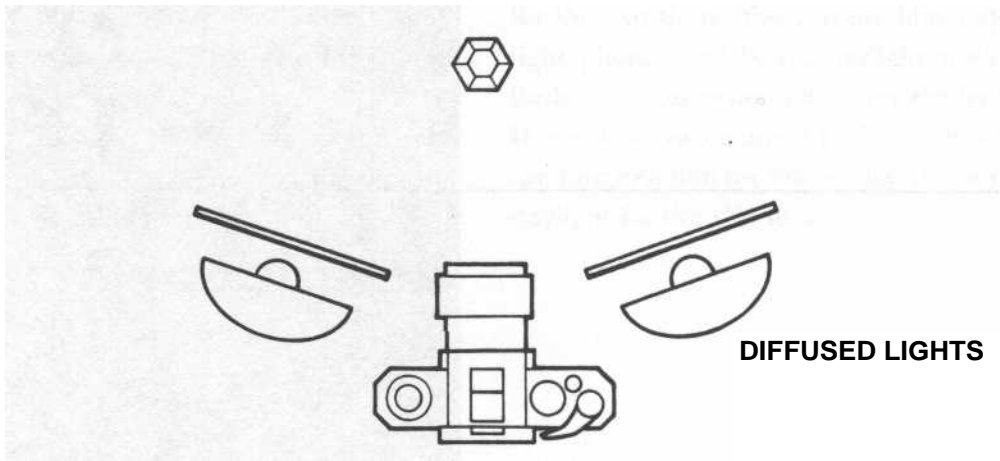

Figure 16-1 Setup for photographing cut stones with diffused lights on either side of the lens.
**Figure 16-2** Setup for photographing cut stones with lights on either side of the lens, with a large diffuser pierced by lens. A larger area of diffuser illuminates the stone better than in Figure 16-1, especially if more than two lights are used, spaced equally around the lens.
If your light sources are small enough, as with the high-intensity desk lamps discussed in *Chapter 6*, they can be placed on either side of the lens, aimed at the stone. The film plane of the camera should be as nearly parallel with the table of the stone as possible (Fig. 16-1). This setup maximizes the effect and keeps the
**Figure 16-4** If a single large light is used, it may not be possible to use the methods shown in Figures 16-1, 16-2, and 16-3. A pierced reflector can be angled so that the light is reflected along the lens axis to the stone.